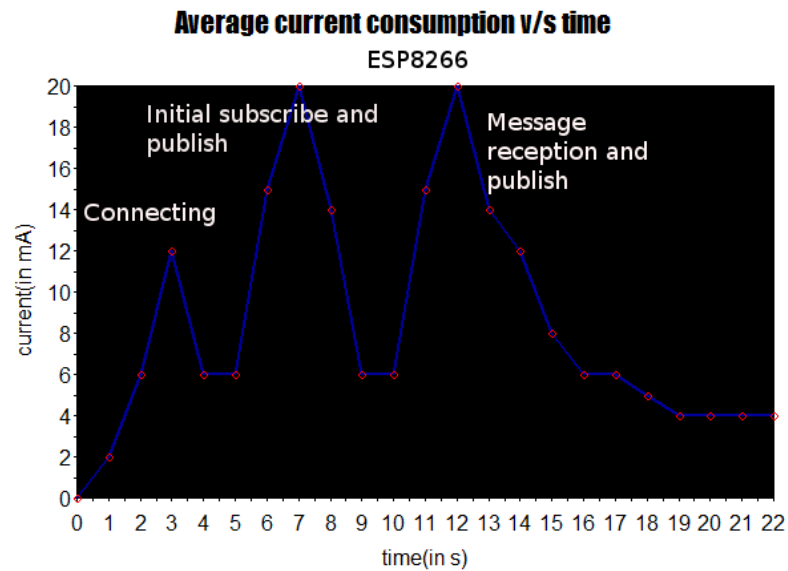

Figure 2: Average
- Peak current consumption of the ESP8266 module during its various operations over time. Refer figure 2